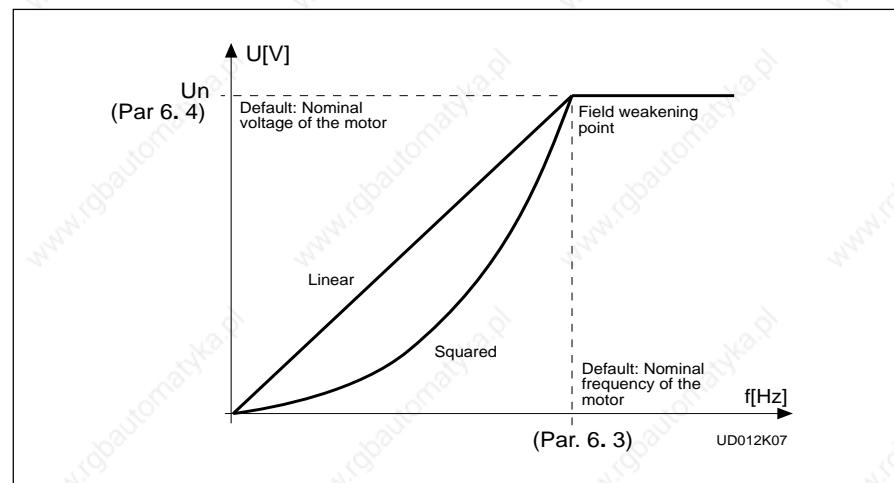

Figure 5.4.-2 Linear and squared U/f curves.
**Linear:** The voltage of the motor changes linearly with the frequency in the constant flux area from 0 Hz to the field weakening point (par. 6. 3) where the nominal voltage is also supplied to the motor. See figure 5.4.-2. Linear U/f ratio should be used in constant torque applications.
**1** The voltage of the motor changes following a squared curve form with the frequency in the area from 0 Hz to the field weakening point (par. 6. 3) where the nominal voltage is also supplied to the motor. See figure 5.4.-2.
**U/f curve 2** The U/f curve can be programmed with three different points. The parameters for programming are explained in Chapter 5.5.2. Programmable U/f curve can be used if the other settings do not satisfy the needs of the application. See figure 5.4.-3.